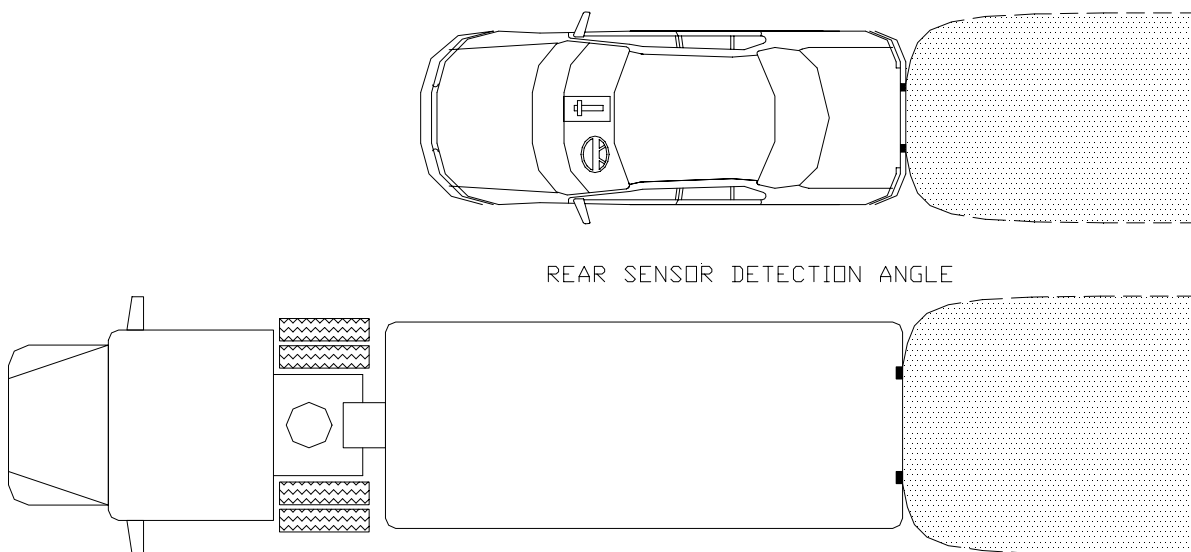

FIG. 3
- 1) Disassemble the rear bumper and identify places for installing two sensor modules. For the optimum performance, 2 feet to 3 feet spacing between two sensors with the center of the bumper as the midpoint of the two sensors is highly recommended. The optimum mounting configuration is that the mounting holes are placed on the horizontal plane with the sensor cable toward upward. The orientation of the sensor is also shown to provide the optimum solution (Figure 2 and Figure 3). Mounting brackets may not be necessary with this kind of arrangement.